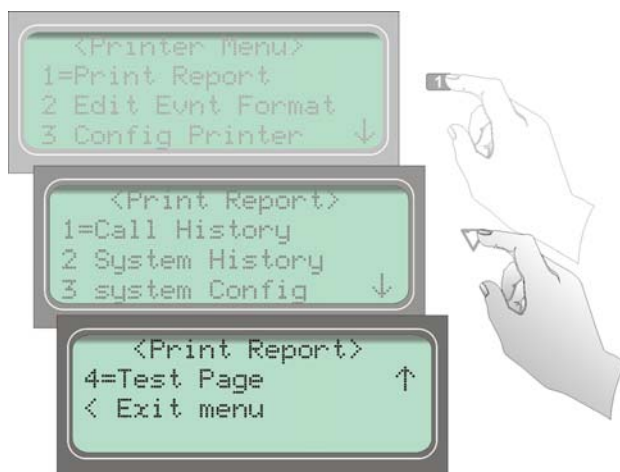

Figure 4-12 Print Report Menu Items
4. Press **1** for print report menu. (See Figure 4-12.)
4. Press  for print report menu. (See Figure 4-12.)